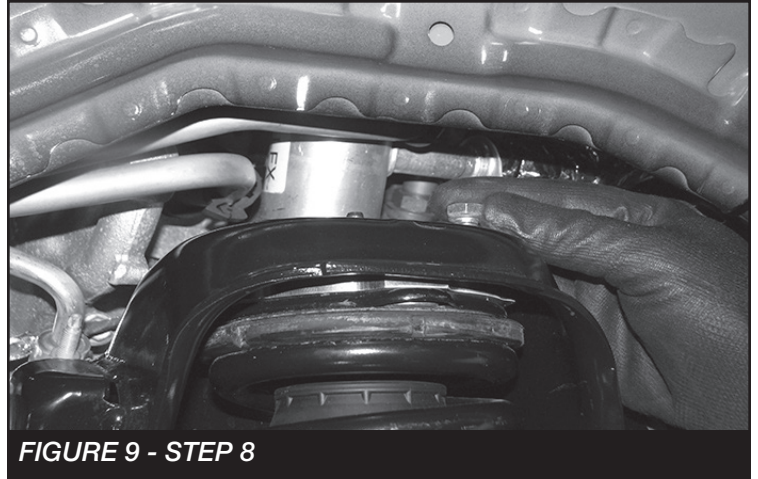

FIGURE 9 - STEP 8
8. Install the coilover using the supplied 3/8" hardware for the top and the supplied FT83104 (lower coilover spacers). Torque to 52 ft-lbs. **SEE FIGURE 9**